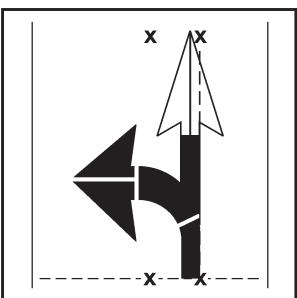

Figure 24
- Lay out the top two sections of the straight arrow (liner still on) on top of the straight arrow base (see Figure 24).